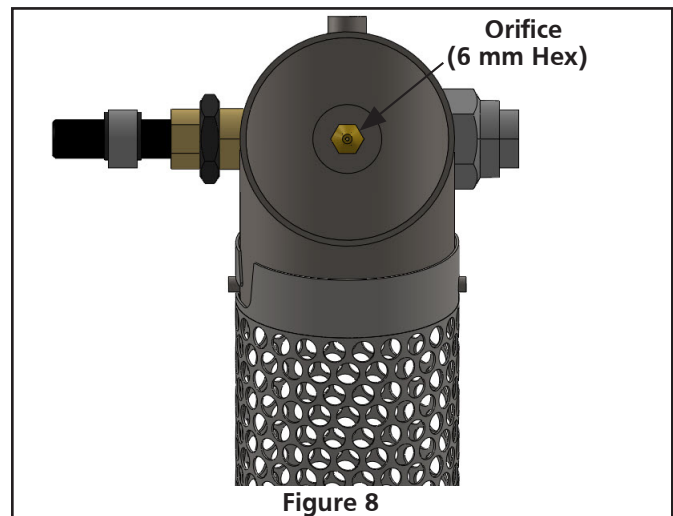

Figure 8
2. Use a 6 mm nut driver to remove the orifice from inside the air manifold. See Figure 8.